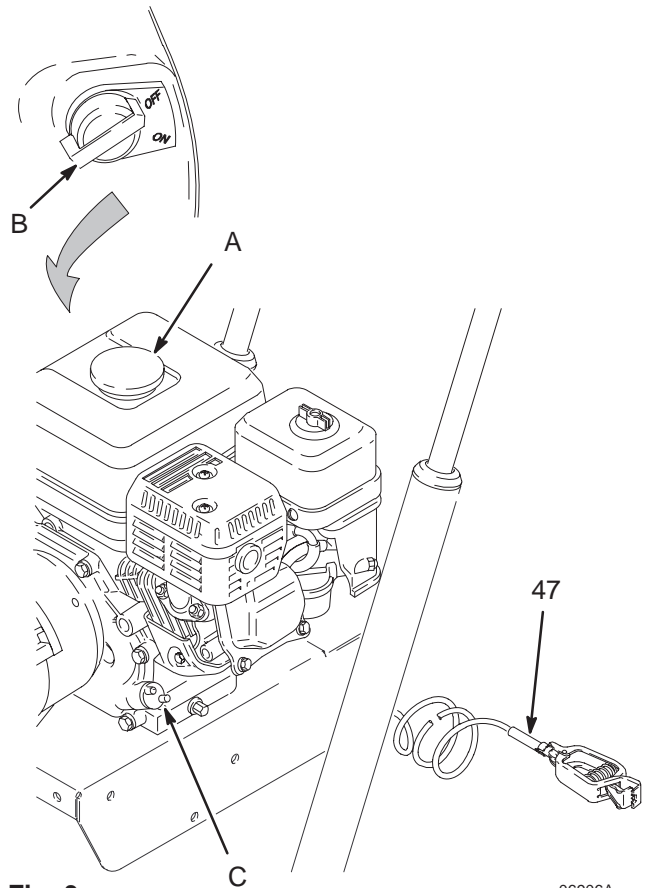

Fig. 3
5. **Check the engine oil level.** Refer to the Honda engine manual, supplied. This is a summary of the information: Remove one of the oil fill plugs; (C) the oil should be almost overflowing. See Fig. 3. Add oil as necessary.